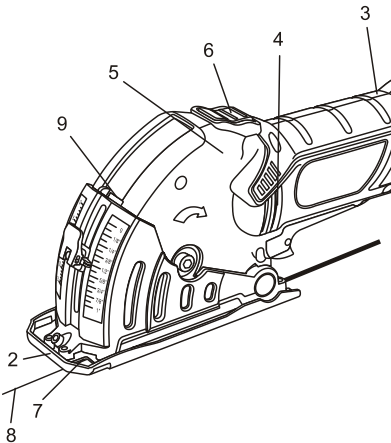

Fig. 8
4. Place leading edge of the blade guard (2) on the workpiece to be cut (Fig. 8).
5. Grasp the tool with two hands. Place your right hand on the body of the tool (3) being careful not to cover the motor vents (4). Place your left hand on the forward part of the tool (5) so your thumb can operate the blade guard release button (6).
6. Line up front cut line indicator (7) with the cutting line marked on the workpiece (8).
8. Using the thumb on your left hand, press the blade guard release button (6) (Fig. 8).
9. Gently press downward on the front of the tool to raise the blade guard until it touches the depth control stop (9).
10. Re-check the alignment of the front cut line indicator (7) and the cutting line marked on the workpiece (8).